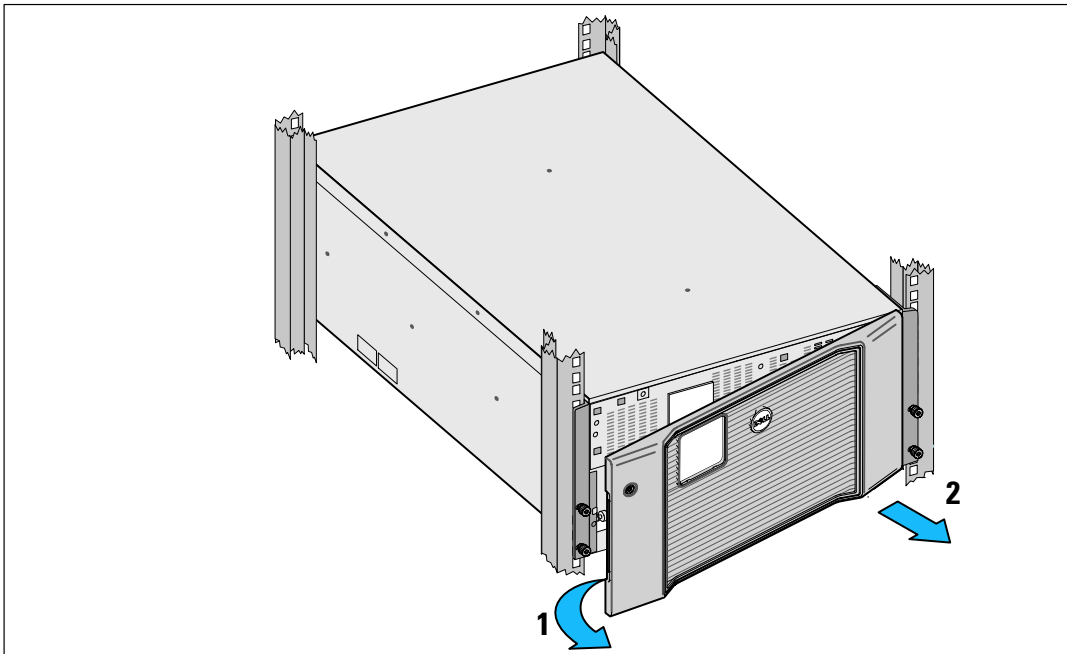

Figure 33. Removing the UPS Front Cover
- 2 Remove the UPS front cover (see Figure 33):